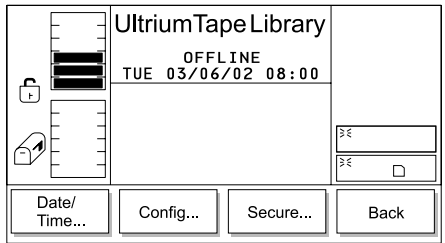

Figure 217. Utils Submenu
3. Press the button below the **Utils** softkey. The Utils Dialog displays (see Figure 217 on page 172).
| redisplay (see Figure 217 on page 172).